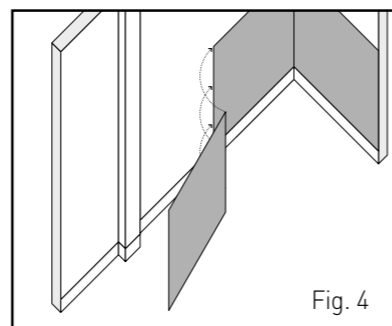

Fig. 4
- Set the DECOCHOC panel in place while respecting the predefined wall clearances on each side (see Fig. 4).